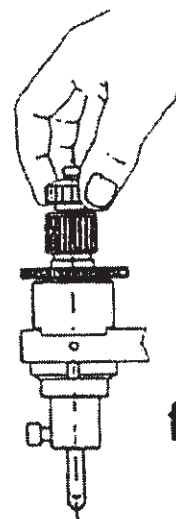
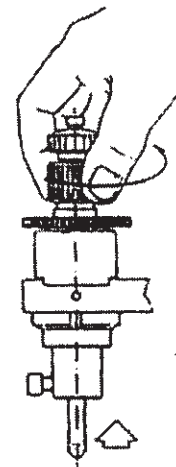

fig.3a
fig.3b
Turn on the motor (E) and check that when the tracer point touches the left-hand key, the cutter should just skim the right-hand key to leave a slight groove. If this groove appears too deep, loosen the adjustment screw nut (N), turn the adjustment screw (M) clockwise. This will lower the tracer point (fig.3c) (note that the spring loaded release nut (O) must be unscrewed to free the adjusting screw (M)(fig.3a)), lifting the the cutter from the key. However, if no contact is made between the cutter and the key, anti-clockwise turning of the screw (M) will adjust correctly (fig.3b). When the cutting depth is perfect, tighten the locking nut (N). Loosening the spring loaded nut still further will allow the tracer point to locate onto the left-hand keyblank before the cutter comes into contact with the right-hand keyblank.